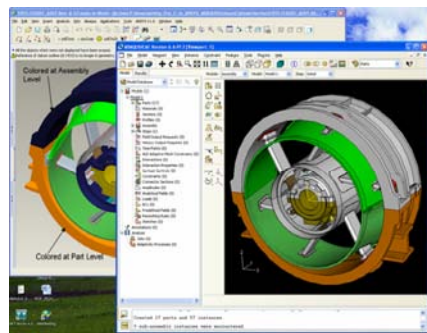

Figure 5. Assembly Model.
5. The view will be in the x-y plane, looking into z-axis, for the first import of an Assembly model. But the coordinate orientation of the model will be the same as in Pro/E. The Assembly in Figure 5 is an Exhaust Cylinder Section of a Gas Turbine and has been rotated from the x-y plane for a better view. The component color from Pro/E should also come into Abaqus/CAE. However, Figure 5 shows that there are some exceptions. The blue color did not import (the Cylinder Cover is blue in Pro/E and gray in Abaqus/CAE). Colors assigned at the Part level are imported in, while those assigned at the Assembly level are not.
Once the model is in Abaqus/CAE, updates are simple. Modifications trigger the regeneration process in Abaqus/CAE and can include suppressed features or unsuppressed features. Modifications can also include making changes to geometry. And it is not limited to Pro/E. The geometry can be modified in Abaqus/CAE also. Abaqus/CAE keeps track of adjustments within Abaqus/CAE, so that when an update to Pro/E is made, those adjustments, are modified as they relate to Pro/E updates. As an example of making a model update, the Cylinder component color will be changed in the Assembly Model shown in Figure 5.